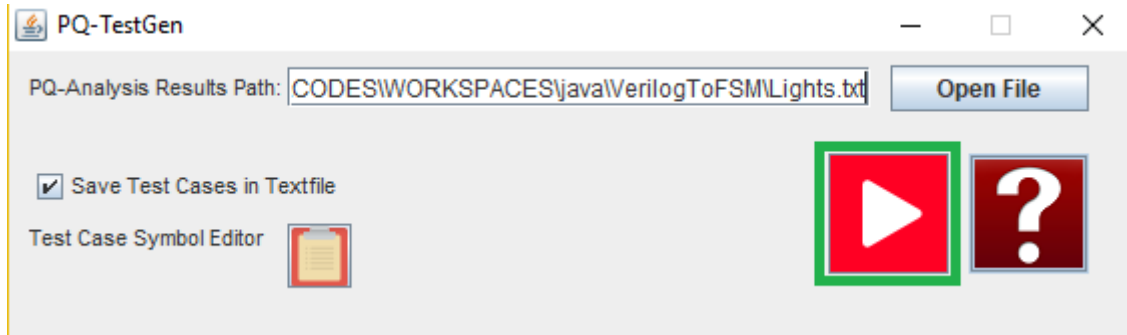

Figure 5
-Click “Play Button >” on the program to generate all test cases and optimum test cases (Figure 5)